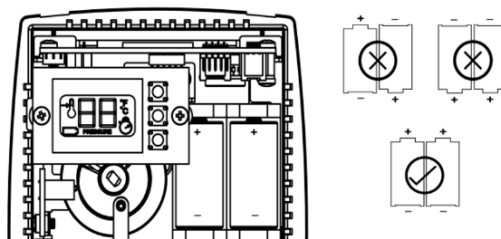

Figure 7. WPT-DB Batteries
8. Install the batteries and close the top cover. The battery polarities are as shown in Figure 7.
Replace battery with CR123 type or equivalent from Panasonic, Sanyo, Energizer or Duracell only. Use of any other battery may present a risk of fire or explosion. See Figure 7 for correct polarity.